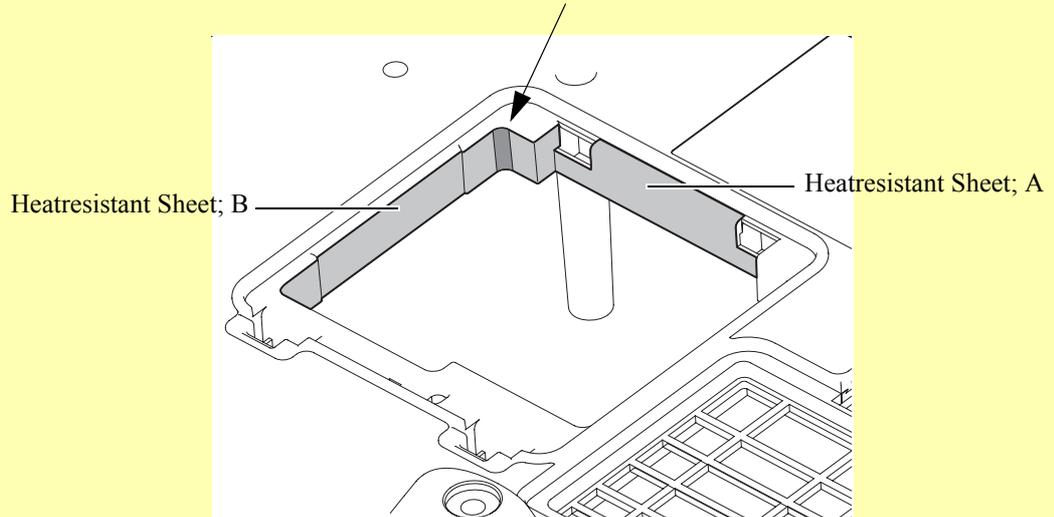

Figure 4-47.
- Affix the Heatresistant Sheet; A and Heatresistant Sheet; B as shown in Figure 4-47.